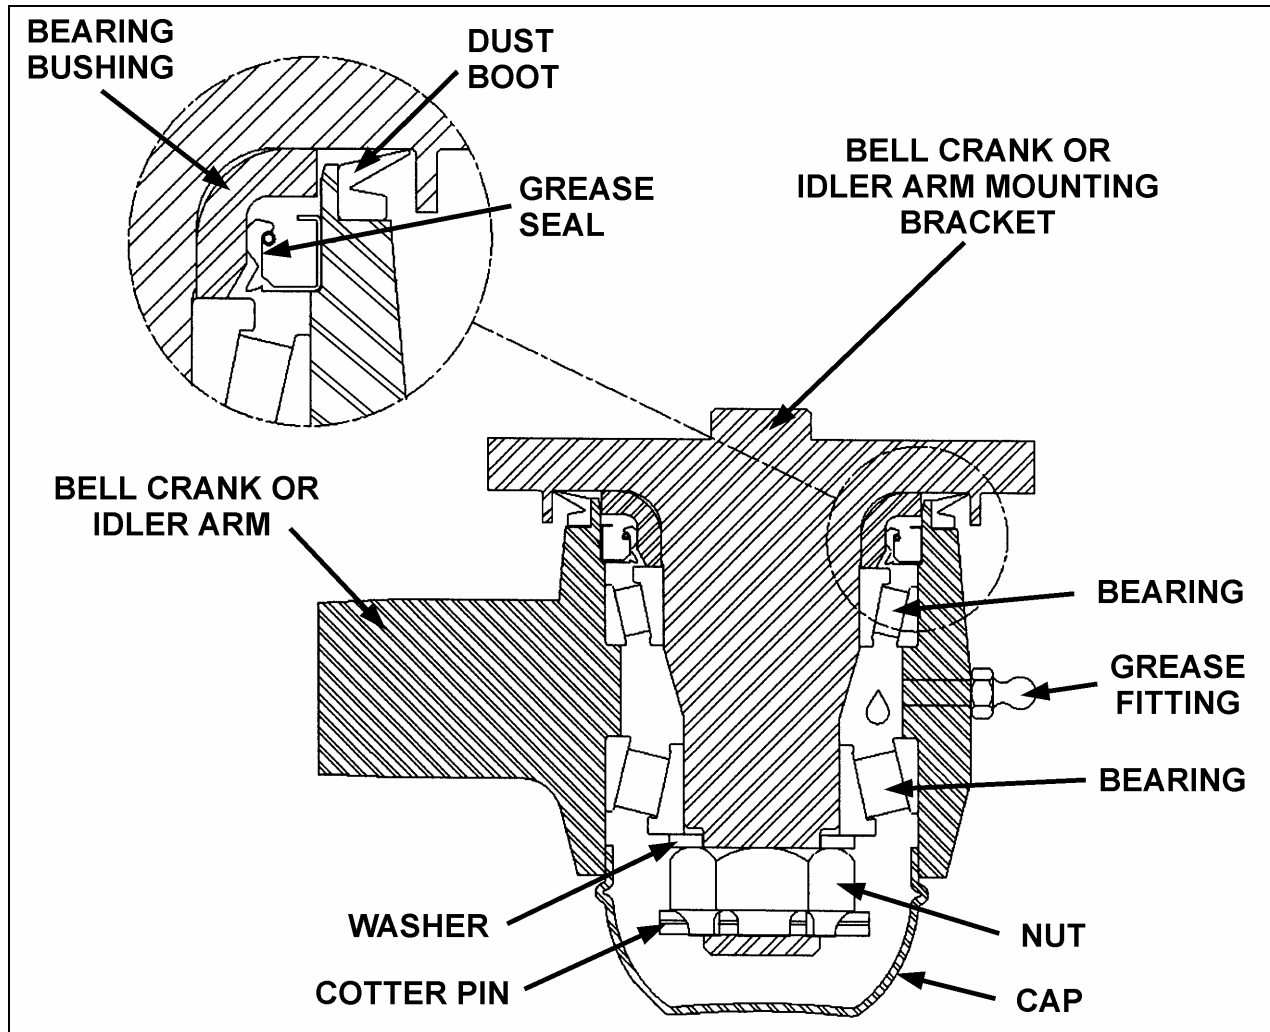

FIGURE 10: BELL CRANK AND IDLER ARM BALL JOINT
2. Remove the cap (Fig.10).
3. Remove the cotter pin, nut and tongue washer. Remove bearings, grease seal, bearing bushing and the bell crank or idler arm from its mounting bracket stud (Fig. 10).
2. Install bearing and grease seal in bell crank or idler arm eye (Fig. 10).
3. Install bell crank or idler arm on its mounting bracket stud (Fig. 10).
7. Check for loose bearings by applying an up and down load on bell crank or idler lever (Fig. 10). The lever is not supposed to move in the vertical axis direction.
Bend cotter pin around the nut (Fig. 10). Do not bend the cotter pin in the direction of the cap, because it may interfere with the cap.